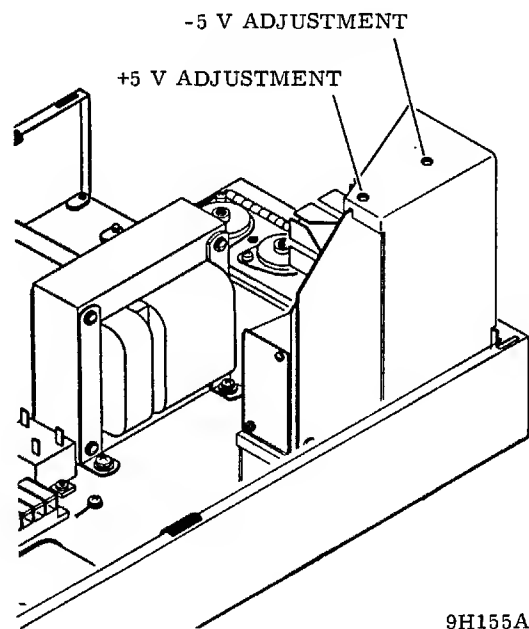

Figure 2-11. Power Supply Adjustment Locations
6. Minus 5-volt output should be from -5.05 to -5.15 volts. If not, adjust -5 V potentiometer on card AlA01 (see figure 2-11) until output is within specification.